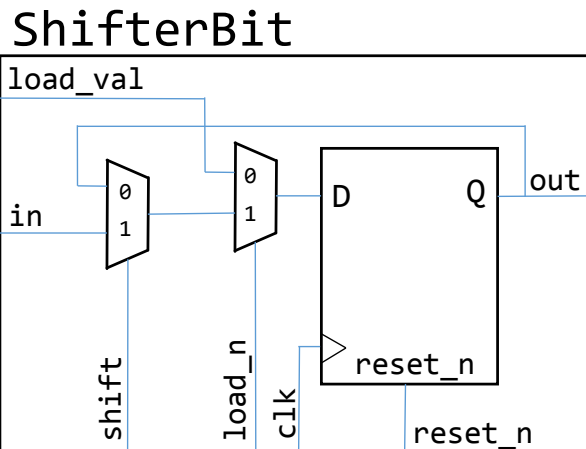
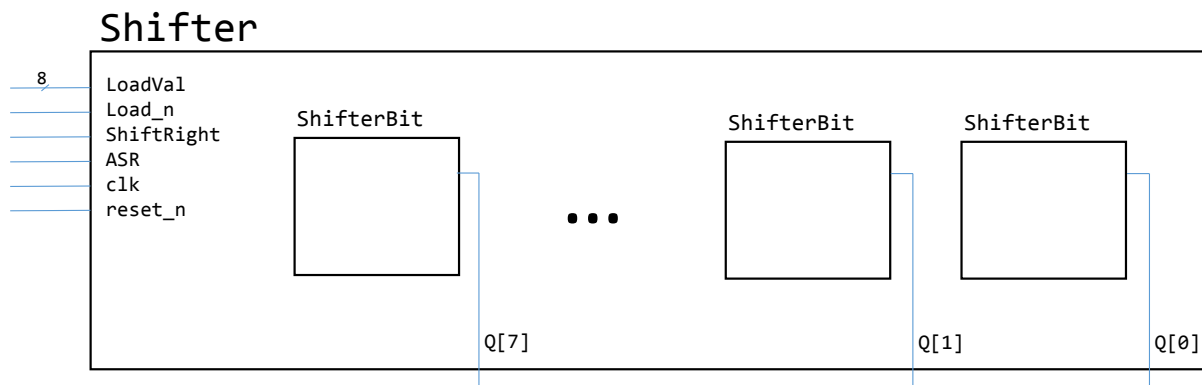

Figure 5: Single-bit shift-register
Figure 6: 8-bit shift-register of Part III. **None** of internal connections are shown here.
In this part of the lab, you will create an 8-bit shift-register that has an optional arithmetic shift. A shift register is a collection of flip-flops that move values sequentially between each other on each clock edge. Figure 5 shows one bit of this shift-register. It contains a positive edge-triggered flip-flop and two multiplexers. To create an 8-bits shift-register, you will use eight instances of the circuit in Figure 5 to design your 8-bit shift-register with optional arithmetic shift and parallel load as shown in Figure 6.
In the Shifter module, create an 8-bit-wide register input *LoadVal*, whose individual wires are connected to *load_val* input of *ShifterBit* instances. Likewise, create an 8-bit-wide output *Q*, which is the output of *ShifterBit* instances. The *shift* input of all eight instances of the circuit in Figure 5 should be connected to the single input *ShiftRight*. The same thing applies to *load_n*, *clock* (*clk*), and *reset_n*.
The *in* input of seven instances should be connected to the *out* port of the instance to its left. For the leftmost *ShifterBit*, you should design a circuit that will perform sign-extension when the signal *ASR* is high (arithmetic right shift) or load zeros if *ASR* is low (logic right shift). This special circuit is not shown in Figure 6.
1. What is the behaviour of the 8-bit shift register shown in Figure 6 when $Load_n = 1$ and $ShiftRight = 0$? Briefly explain in your prelab. **(PRELAB)**
2. Draw a schematic for the 8-bit shift register shown in Figure 6 including the necessary connections. Your schematic should contain eight instances of the one-bit shifter shown in Figure 5 and all the wiring required to implement the desired behaviour. Label the signals on your schematic with the same names you will use in your Verilog code. **(PRELAB)**
3. Starting with the code in Figure 2 for a positive edge-triggered D flip-flop, use this D flip-flop with instances of the *mux2to1* module from Lab 2 to build the one-bit shifter shown in Figure 5. To get you started, Figure 7 is a code snippet that shows how the D flip-flop will be connected to one of the 2-to-1 multiplexers. **(PRELAB)**